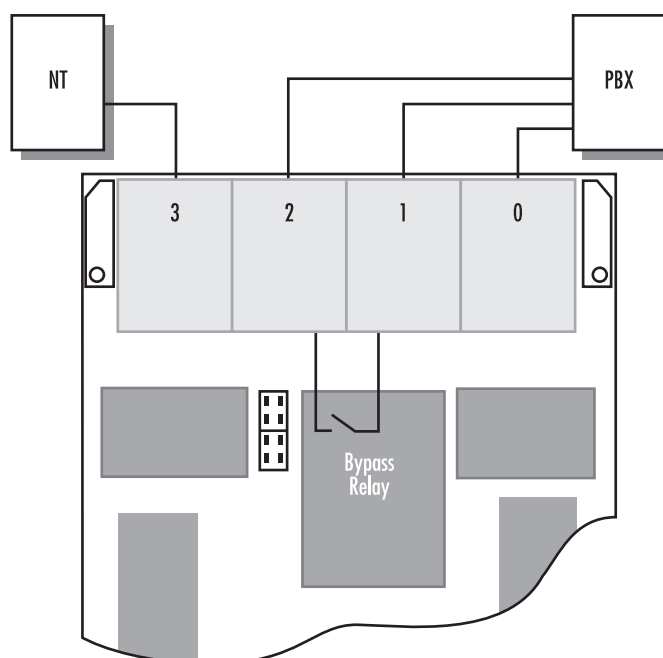

Figure 19. Three ports connected to the PBX and one port to the ISDN network
- Three ports (0, 1, 3) are connected to the PBX and one port (2) to the ISDN network (local breakout) as shown in figure 19 on page 40. The local breakout port can be used to route calls from and to the ISDN network. This is the fallback situation described in section “Hardware bypass” on page 38. When power fails or the bypass is manually activated, ports 1 and 2 are inter-connected through the bypass relay, providing a lifeline to the ISDN network.